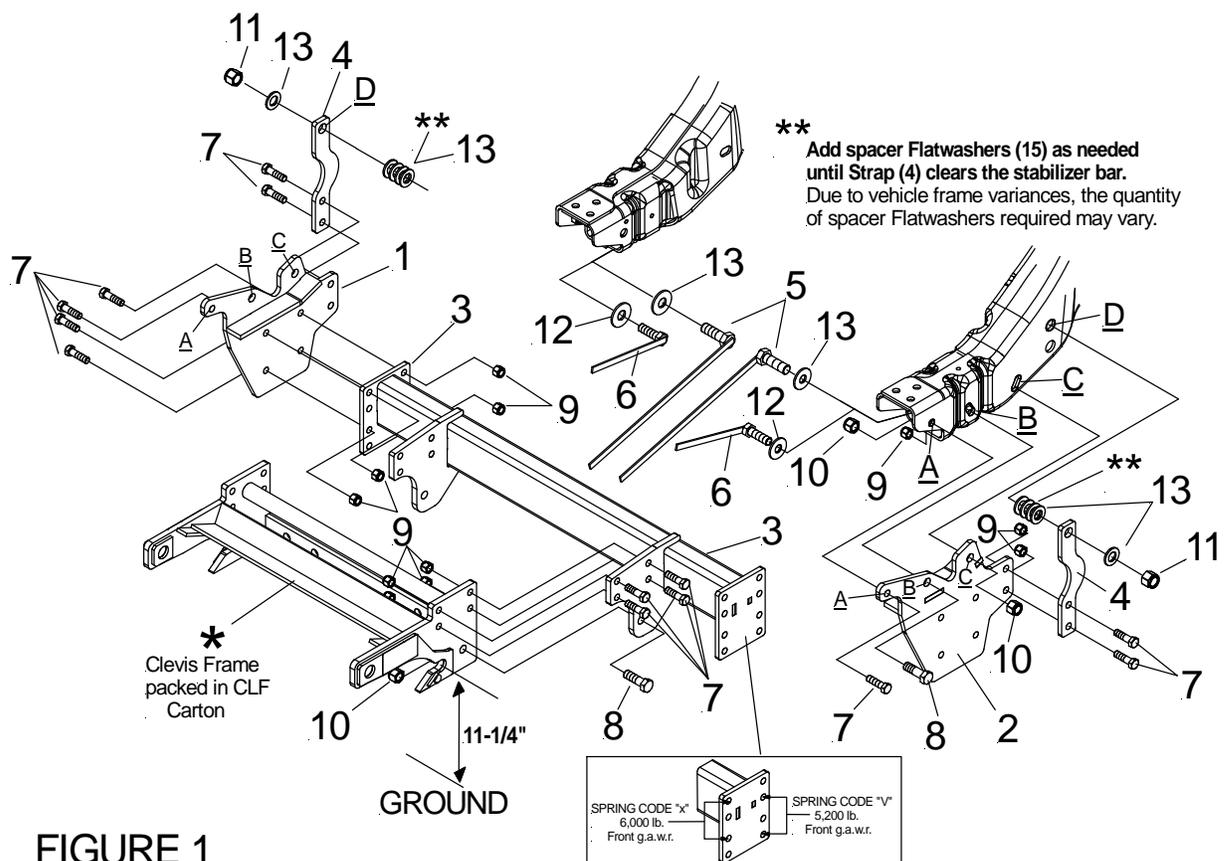

FIGURE 1
- B.** Position L.H. Side Assembly (2) onto driver's side of vehicle frame aligning the top three holes in Side Assembly (2) with existing holes in vehicle frame. Attach Side Assembly (2) to vehicle frame at hole (A) using 1/2-13 x 1-3/4" bolt (7) and Locknut (9). At Hole (B) using 5/8-11 x 2" bolt (8) and Locknut (10). At Hole (C) using Handle Bolt (6), flatwasher (12) and locknut (10). Per illustration. **Snug all bolts during installation. Do not tighten at this time.**
- C.** Follow same procedure when mounting R.H. Side Assembly (1) to passenger side of vehicle frame.
- D.** Position top hole in L.H. & R.H. Straps (4) to Hole (D) on both the driver and passenger side of vehicle frame. Attach strap (4) per illustration using Handle Bolt (5), flatwasher (13) to inside of frame rail. Space out strap (4) using flatwashers (13) behind Strap (4), and locknut (11). **See ** note on Figure 1. Snug all bolts during installation. Do not tighten at this time.**
- E.** Attach lower holes of the L.H. & R.H. Straps (4) to L.H. and R.H. Side Assembly (1 & 2) using 1/2-13 x 1-3/4" bolt (7) and locknut (9). **Snug all bolts during installation. Do not tighten at this time.**
- F.** Position the Rear Brace Weldment (3) between the L.H. & R.H. Side Assembly (1 & 2). Attach Rear Brace Weldment to Side Assemblies (1&2) using 1/2-13 x 1-3/4" bolt (7), locknut (9). **Snug all bolts during installation. Do not tighten at this time.**